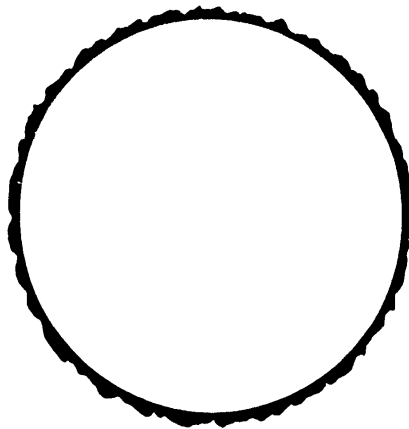

Fig. 4
13. Complete Figure 4 to show the "Through and Through" method of timber conversion.